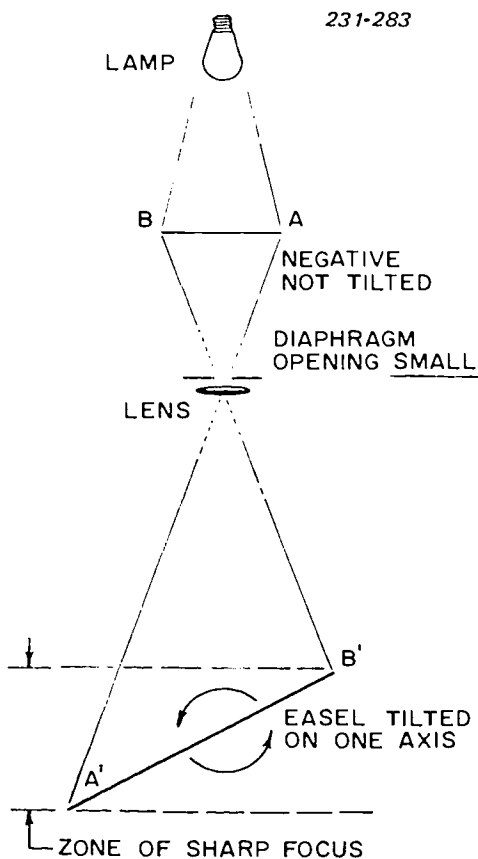
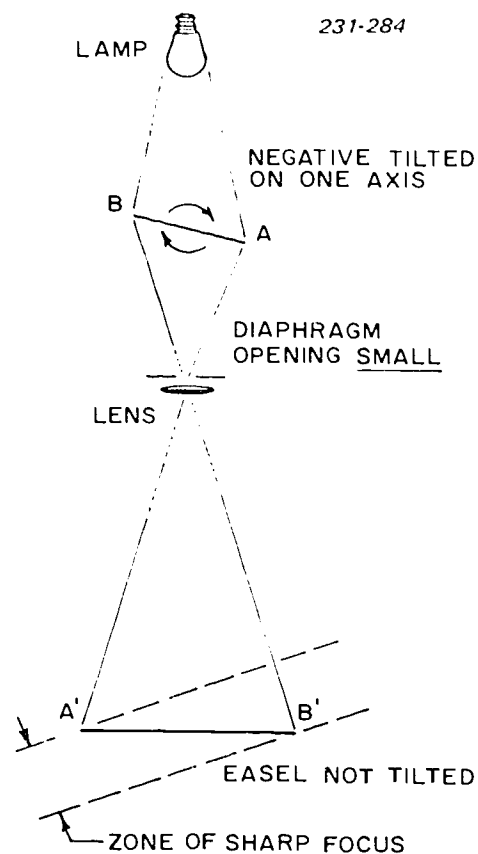
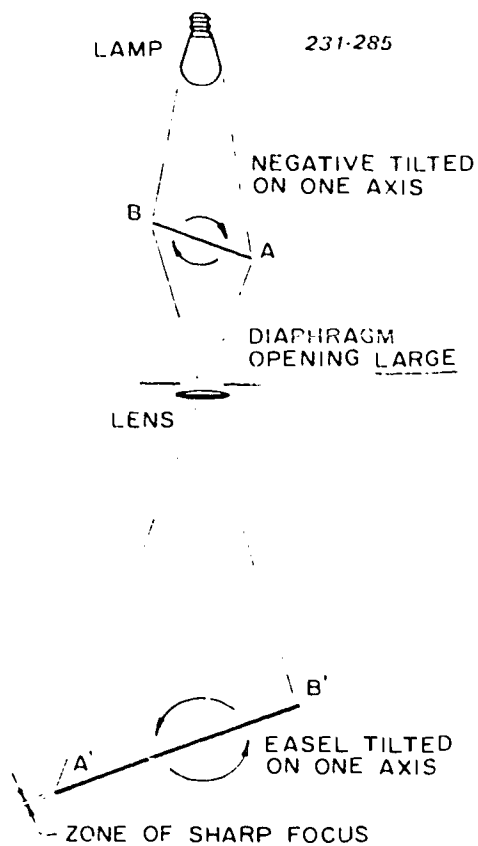

Figure 3-10. Correction by tilting the easel.
Figure 3-11. Correction by tilting the negative.
Figure 3-12. Correction by tilting both the negative and the easel.
**Tilting Only the Easel.** Almost any projection printer has an easel that is a separate entity from the projector. Because the easel is separate, it can be tilted, even if it is merely propped up on one end. Study figure 3-10. Note that a small diaphragm setting is used to increase the zone of sharpness sufficiently to include both the part of the easel nearest the lens and the part of the easel farthest from the lens. Notice, too, that the zone of sharp focus is parallel to the negative in this case, and it is not parallel to the easel.
If parallel lines existed within the negative running in the direction A to B, these same lines on the print would tend to converge—being closest at B' and the farthest apart at A'. Applying this principle to correct for convergence of lines, the end of the negative having the lines closest together would be placed at end A of figure 3-10. The end of the negative having the lines farthest apart would be positioned at B. (However, realize that the ends of the negative could be reversed if the tilt of the easel were also reversed.)
**Tilting Only the Negative.** If the negative were tilted instead of the easel, as is shown in figure 3-11, the result would be much the same as when the easel
Since the same negative-easel relationship exists in figure 3-11 that existed in figure 3-10, the effect of the tilt on the image would be the same as that resulting when the easel was tilted. When the negative is tilted, the same disadvantages also exist; that is, it is essential to use a very *small* diaphragm opening to provide the required depth in the zone of sharpness.
**Tilting Both the Easel and the Negative.** If you carefully examine figures 3-11 and 3-12, you will notice that if both the negative and easel were to be tilted on the same axis but in opposite directions, the correction would be the same. In addition, the plane of sharp focus would be parallel to the easel. Thus, an arrangement such as that shown in figure 3-12 works very well for the correction of distortion when the distortion is on a single axis. Since the plane of sharp focus coincides with the tilt of the easel, the diaphragm aperture can be relatively large.